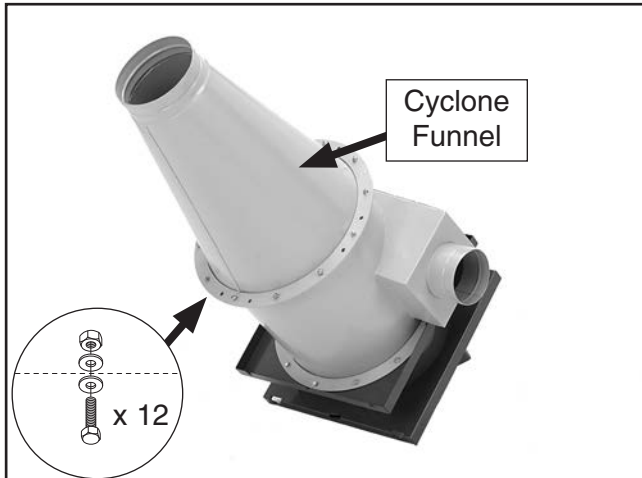

Figure 10. Cyclone funnel attached to intake barrel.
- Attach cyclone funnel to intake barrel, as shown in **Figure 10**, with (12) $\frac{5}{16}$ "-18 x 1" hex bolts, (24) $\frac{5}{16}$ " flat washers, and (12) $\frac{5}{16}$ "-18 lock nuts.